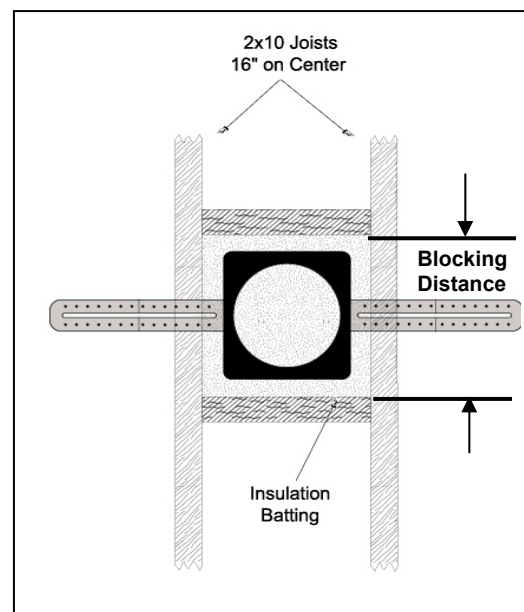

Figure 4
5. When using the On-Q Pre-Construction Bracket (*see Figure 4*), leave a coil of speaker wire on top of the bracket coiled around the speaker mounting hole. There are clips on the corner of the bracket to secure the speaker wire. Leave enough speaker wire to be able to pull the wire through the bracket and comfortably connect the wire to the speaker after the drywall is installed. Strip off 3 inches or so of the speaker cable jacket to expose the positive and negative insulated wires. Strip 3/8-1/2 inch of insulation off of these conductors.